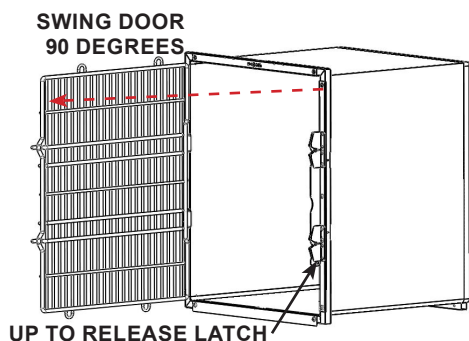

FIGURE 2.1 - Open Door 90°
**STEP 1:** Slide the latch bar up and swing the door to the open position (90° to cage face). See FIGURE 2.1